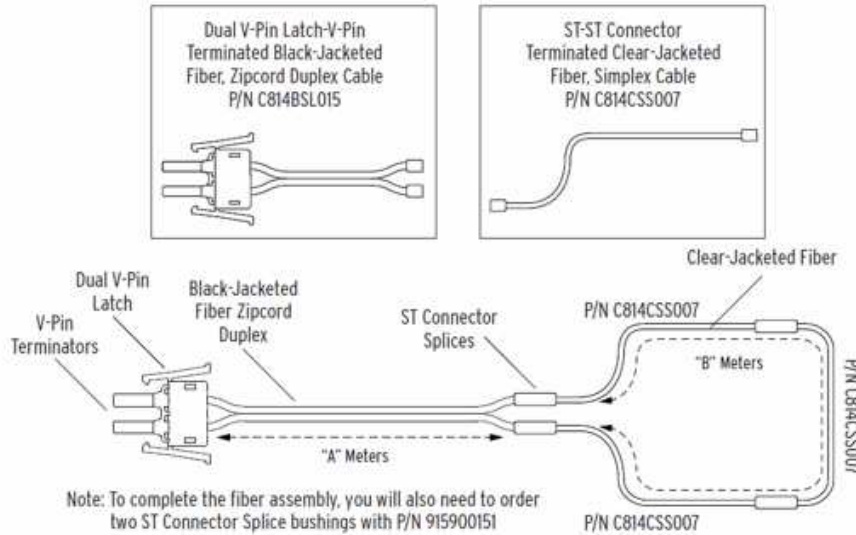

Figure 1 - Bare-Fiber Sensor Assembly with two additional ST Splice Connectors
- 1) Bare-Fiber Sensor with four ST connector splices and an "A" dimension of 15 meters as shown in Figure 1. Two connectors is the standard configuration.